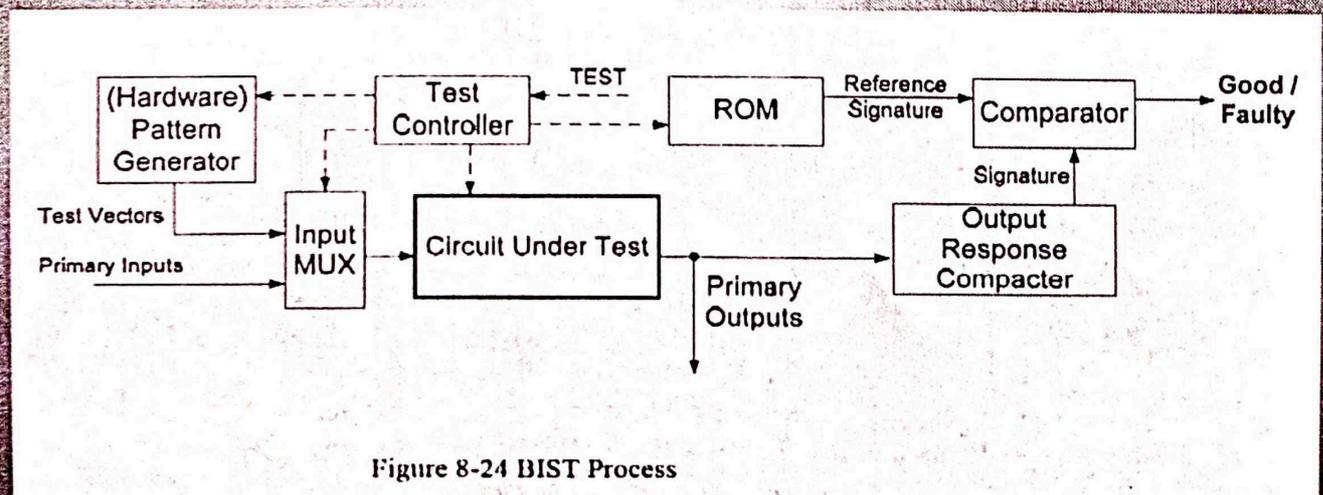

Figure 8-24 BIST Process
- Figure 8-24 gives a typical BIST hardware in more detail.